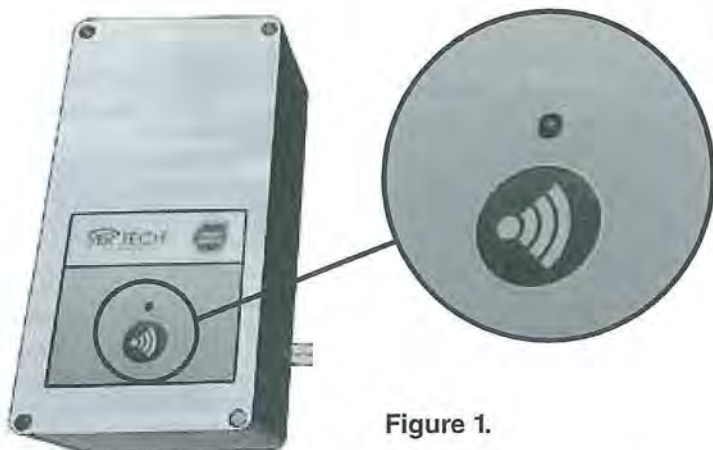

Figure 1.
2. For an AirTech™ unit, under the blower box, press the CONNECT button below the RED light (Figure 1) for 2-3 seconds until it flashes green then it turns back to solid red.